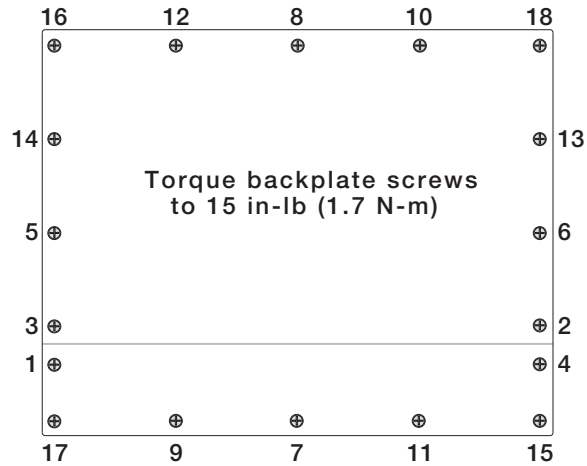

Figure 6-5. 920i Enclosure Backplate
3. Use the torque pattern shown in Figure 6-5 to prevent distorting the backplate gasket.